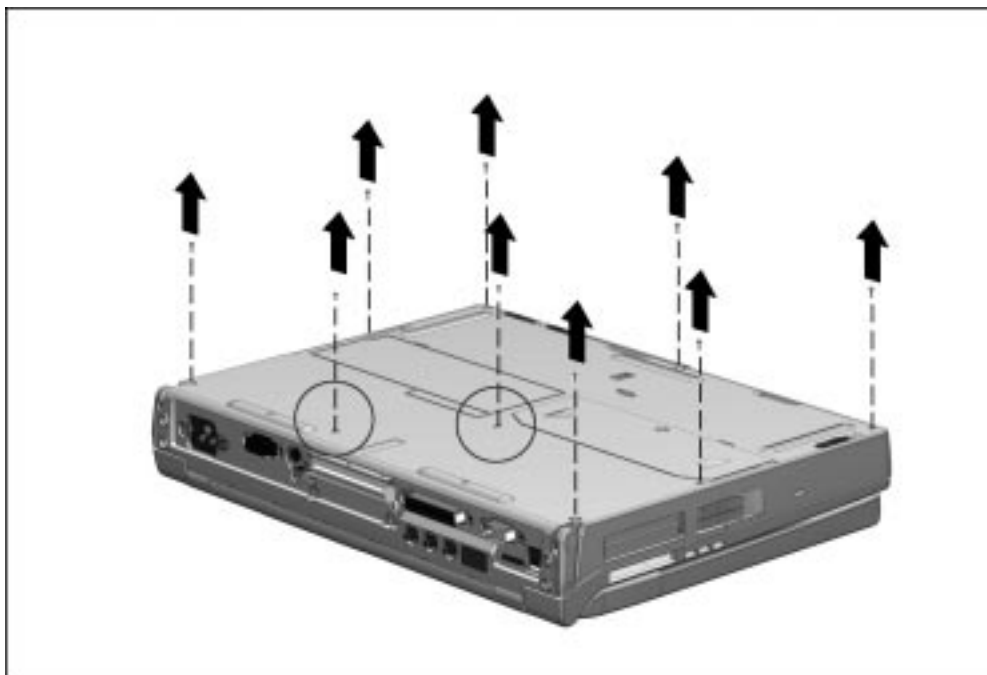

Figure 5-29. Removing the Keyboard Assembly Screws
4. Remove the nine screws from the bottom of the computer (Figure 5-29).